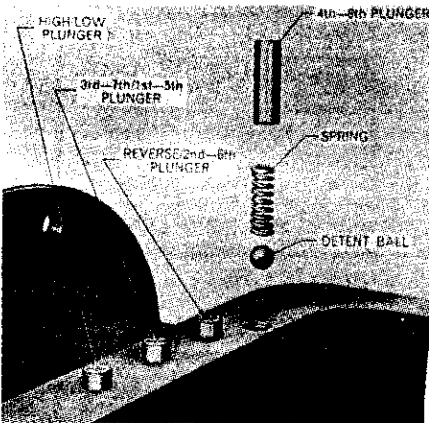

Fig. 203—View showing location of shift rail detent plungers, springs and balls. Plungers are retained by transmission shift cover.
Remove the four detent plungers and springs (see Fig. 203) from their bores. Remove a detent ball as each corresponding shift rail is removed. Move the high-low shift rail rearward until sliding coupling (see Fig. 212) can be removed from mainshaft and high-low shift fork. Note: On late production transmission, refer to Fig. 199 or 200 and remove starter safety switch (71) and retainer (72) as high-low shift rail (30) is being removed. Turn the rail so that locknut can be loosened and the set screw removed from high-low shift fork and remove the fork out rear opening. Then, turn the rail so that locknut can be loosened and the set screw removed from connector on front end of shaft, withdraw the shaft from rear of housing and remove the connector and detent ball. Loosen the locknuts and remove the set screws from remaining shift forks and arms, withdraw the rails one at a time from rear of housing and remove the forks,